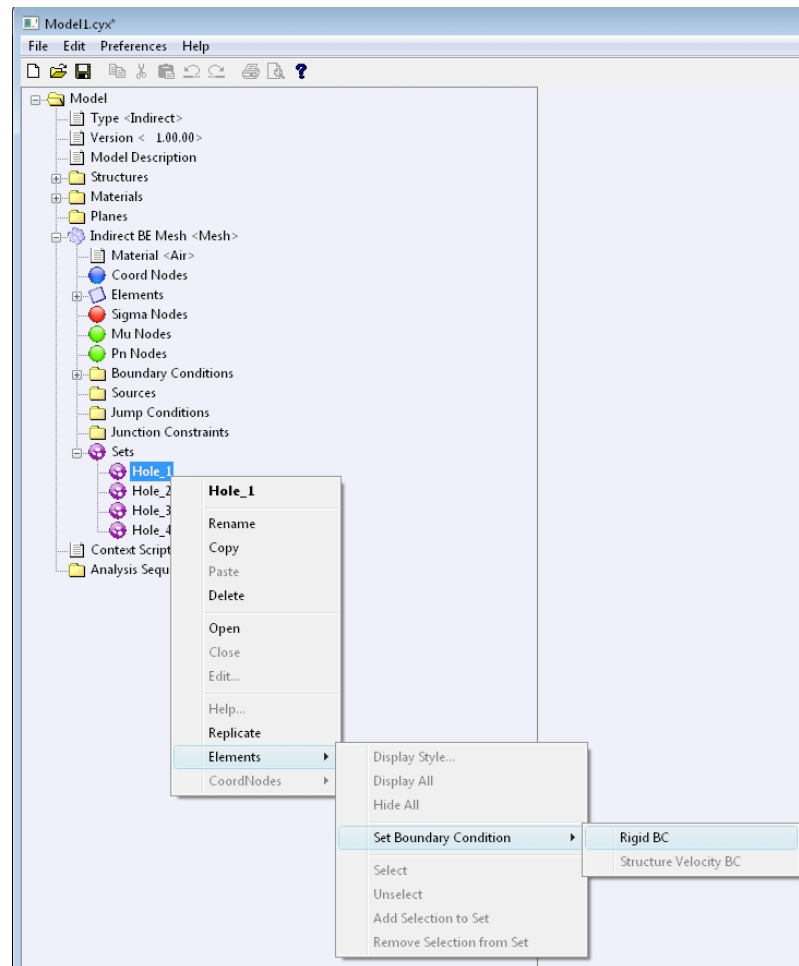

Figure A.43 Apply boundary conditions through sets.
- Right-click on **Holes_1** and select: **Elements** → **Set Boundary Condition** → **Rigid BC** as shown in Figure A.43.